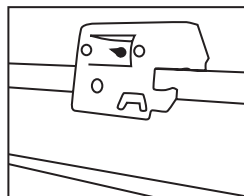

Figure 12
**Step 3.** Place frame into position and snap bar hanger foot with integral T-bar notch onto T-bars (Fig. 12). Lock in place. Additional holes are provided for securing with wire or screws if desired.